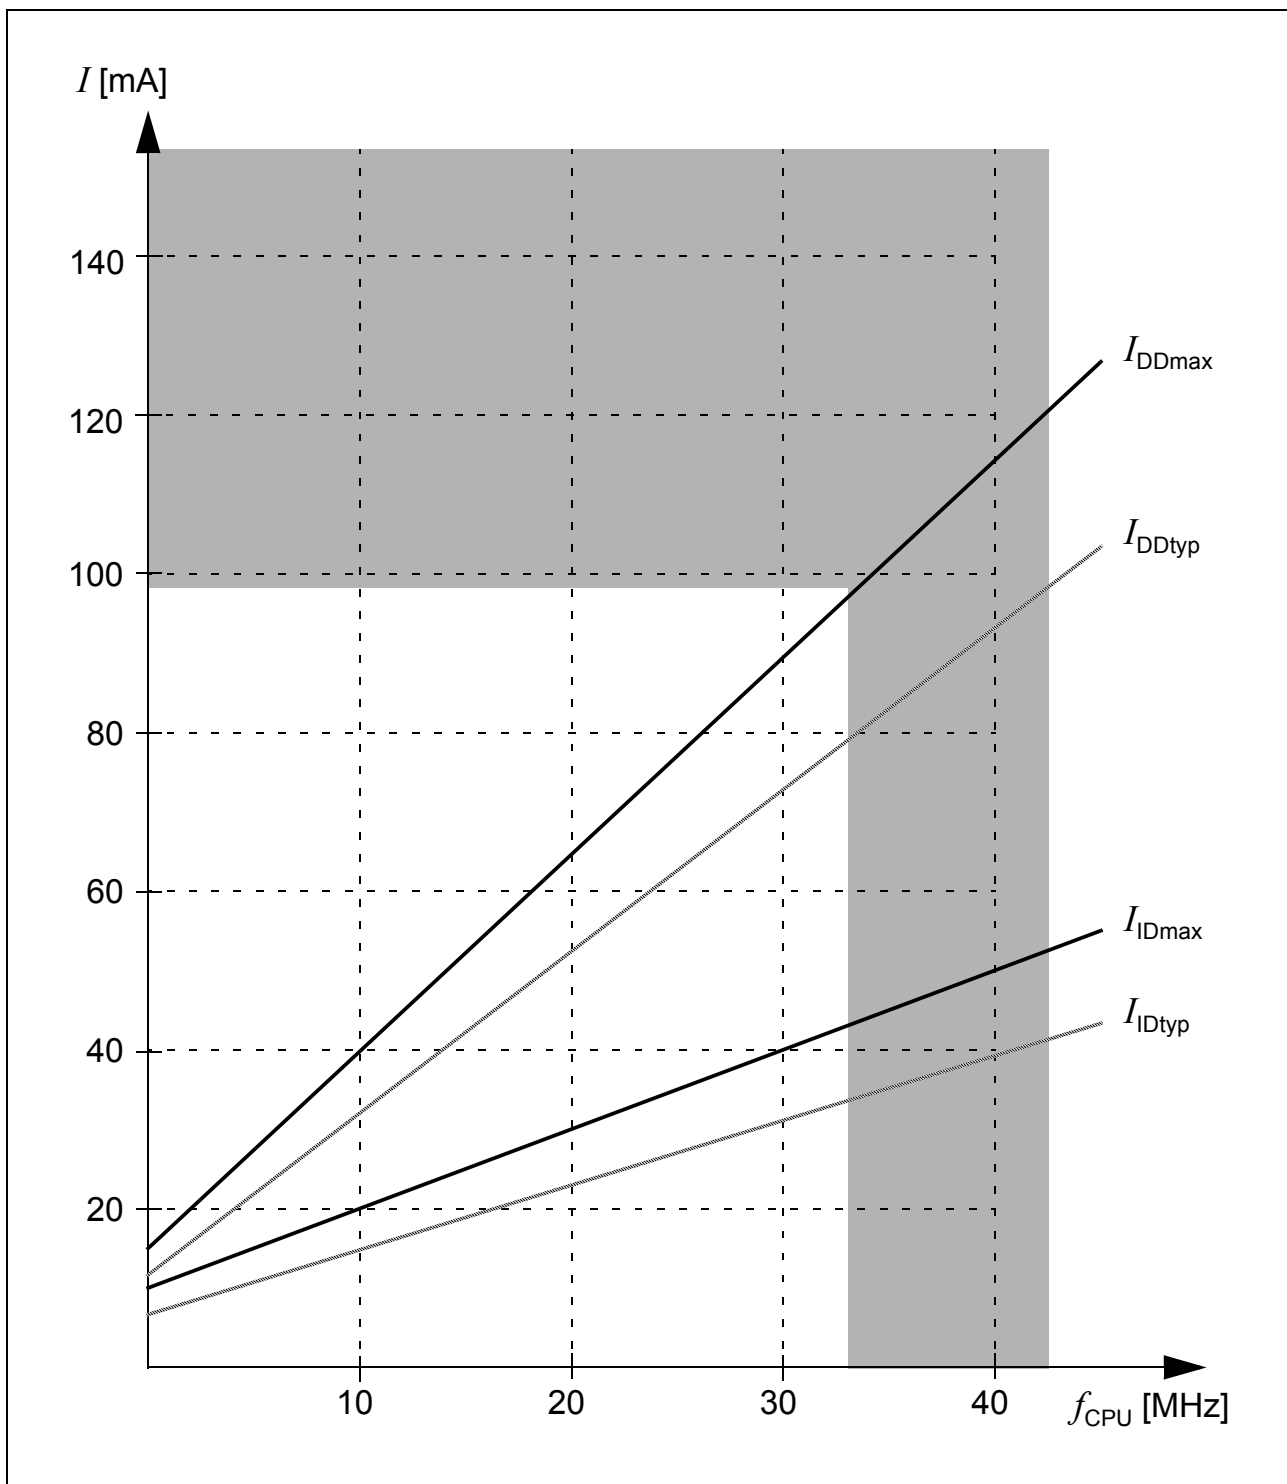

Figure 9 Supply/Idle Current as a Function of Operating Frequency
- 1) The supply current is a function of the operating frequency. This dependency is illustrated in Figure 9.